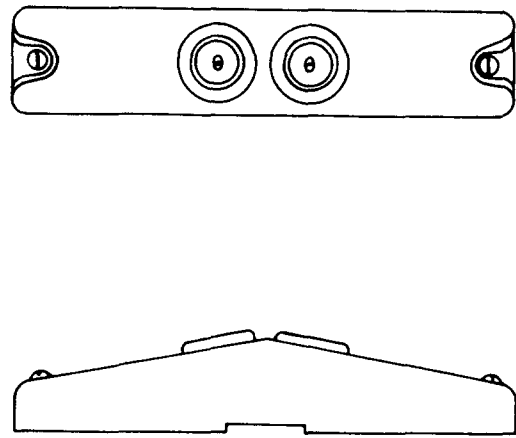

Fig. 5—358A or C Jack
2.05 **358A and C:** These headset jacks (Fig. 5) are used in straight forward trunking installations to enable the "B" operator to manually connect a headset to the called incoming trunk, in the event that the apparatus, which normally performs this function, should fail or where automatic listening is not economical. These jacks mount on the face of the switchboard across the stile strip, between alternate pairs of "B" operators' positions. These jacks are also furnished with spacers for mounting on 10 and 1D-type switchboards.